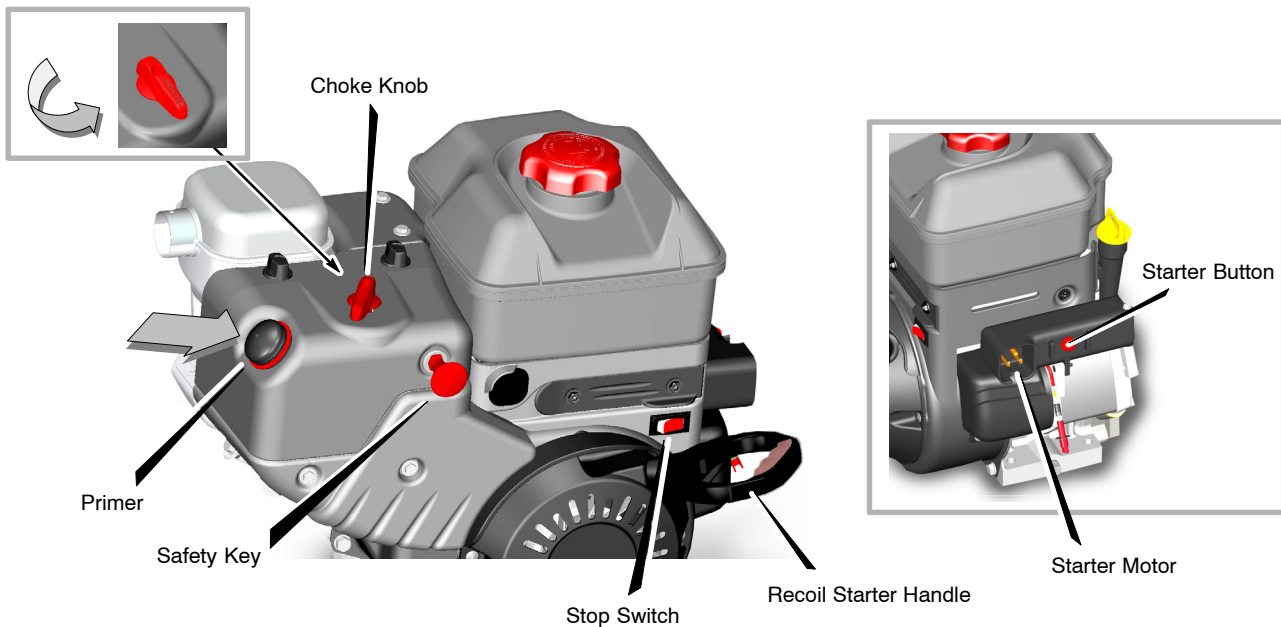

Figure 18
2. Push the **stop switch** to the ON position (see Figure 18).